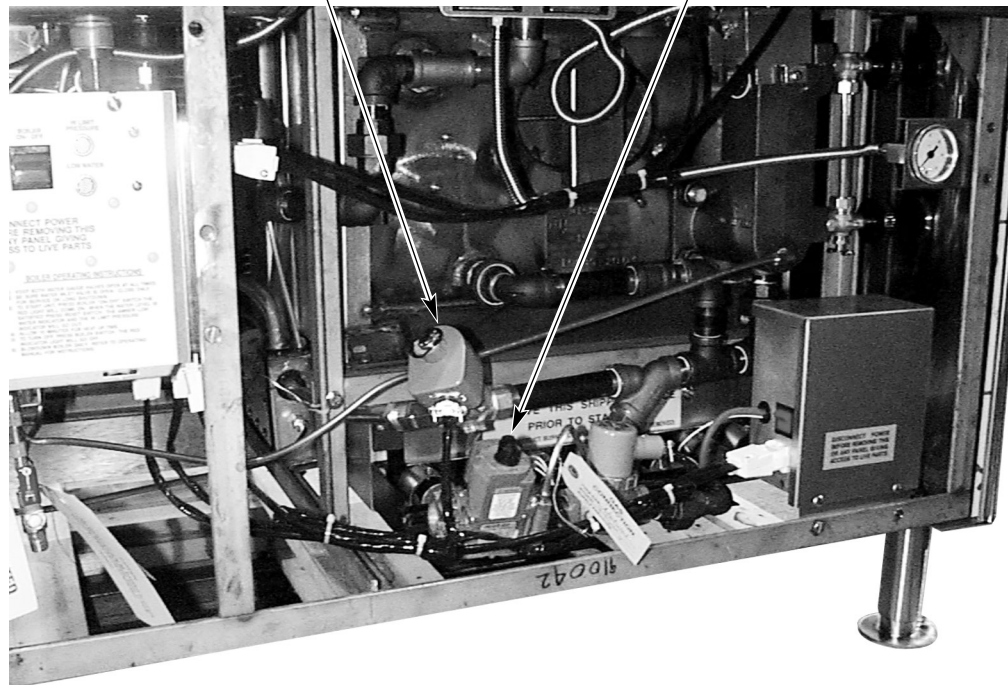

Fig. 7
2. Turn the knob on the Gas Combination Valve (Fig. 7) counterclockwise to the ON position.
3. If equipped with the Manual Blow Down Valve (Fig. 7), make sure it is closed.